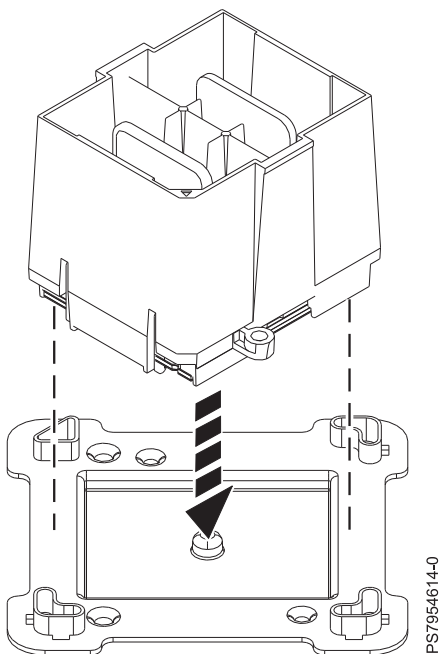

Figure 37. Placing the tool at an angle on the top cover of the packaging
10. Holding the outside of the tool, lift the tool and microprocessor from the socket and place them at an angle in the top cover of the microprocessor packaging that was opened in step 6 on page 69, as shown in Figure 37.